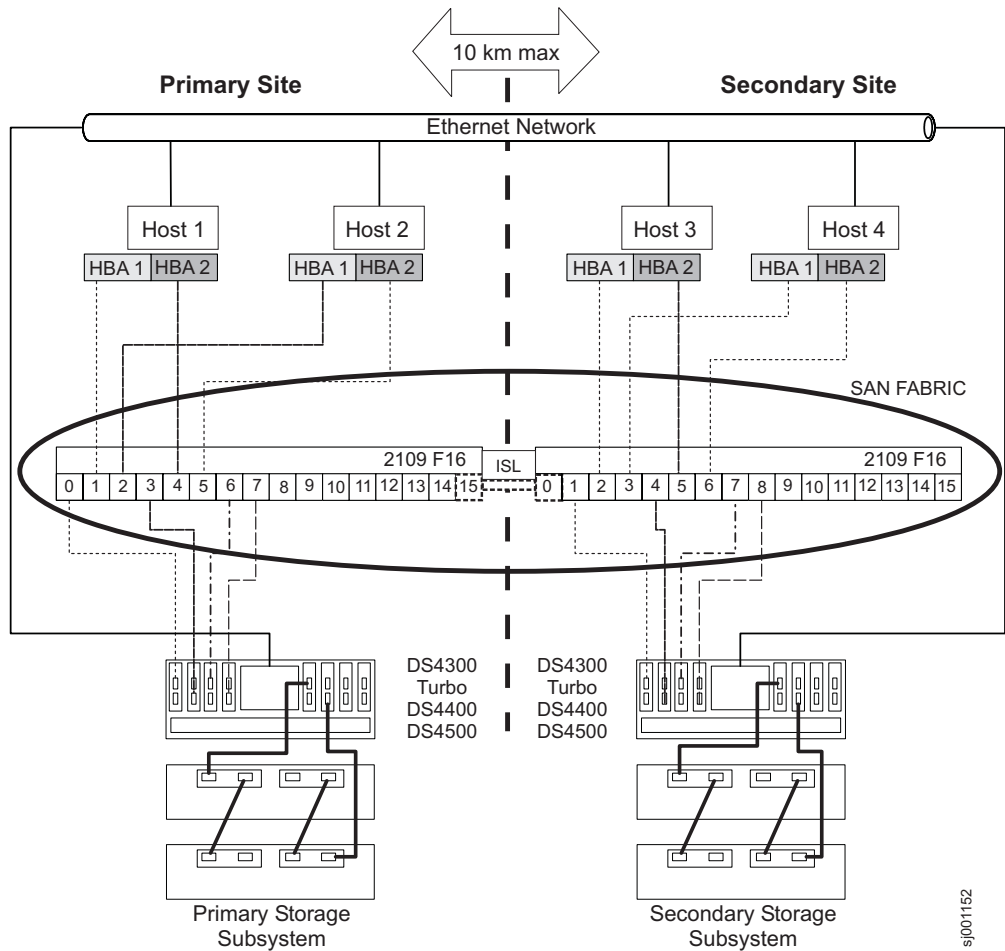

Figure 41. Campus configuration
The Campus configuration offers the same functionality as the Highest Availability Campus configuration, but contains only one switch at each site, rather than two. The configuration is still redundant for host bus adapters, controllers, and remote logical drive mirroring ports, but is a single point of failure for fibre-channel switches. If a switch at either site fails, the Remote Mirror Option cannot function. For this reason, the Highest Availability Campus configuration is preferred for total environment redundancy. Figure 41 on page 120 shows the Campus configuration after installation is complete.
Important: The fibre-channel switches in Figure 41 contain 16 ports each, which leaves many unused ports per switch. If you are performing switch zoning using the fibre-channel host port number, instead of the WWNN of the SAN fabric logged-in ports, do not include fibre-channel switch ports with no fibre-channel connections in the zone definition. If you include these unused ports in your zones, unauthorized access to the SAN might result.
- Refer to Figure 41 on page 120 as you complete the steps in this procedure.